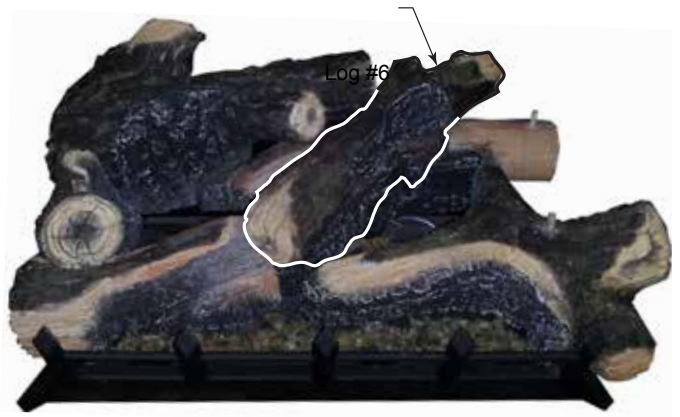

Figure 41
- 6. Place center top log #6 on two (2) pins on top of log #2. The front end of log #6 should rest on log #4. *Figure 41*